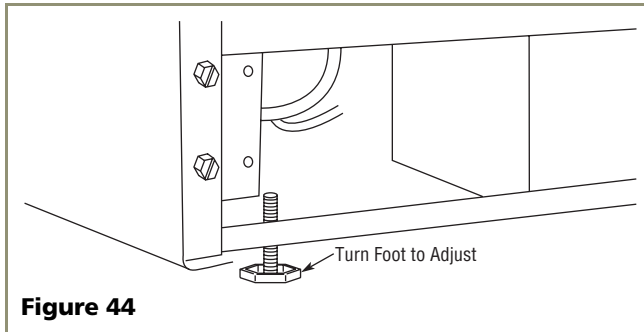

Figure 44
2. If the ice maker is not level, adjust the feet on the corners of the unit as necessary (see **Figure 44**).